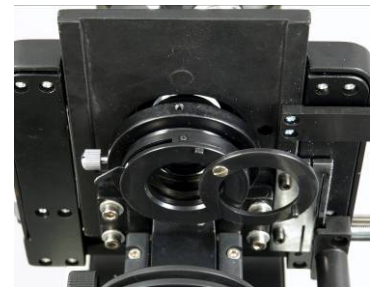

Fig. 5
**2.8 Installation of the glass filter (Fig.5)**